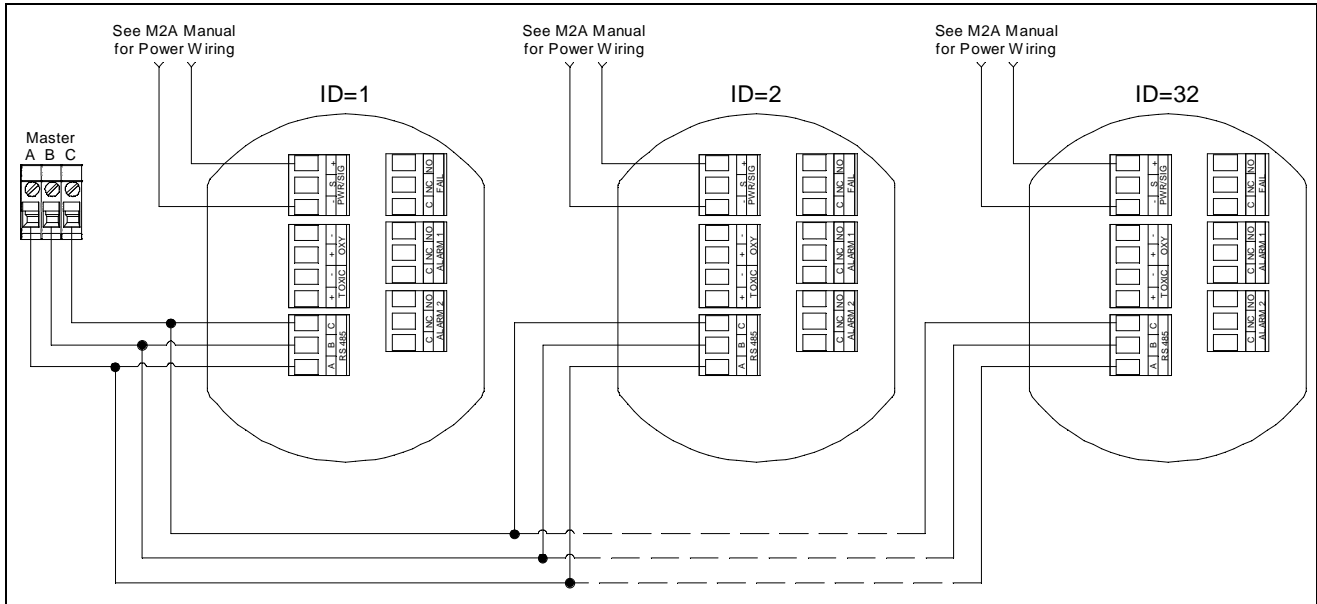
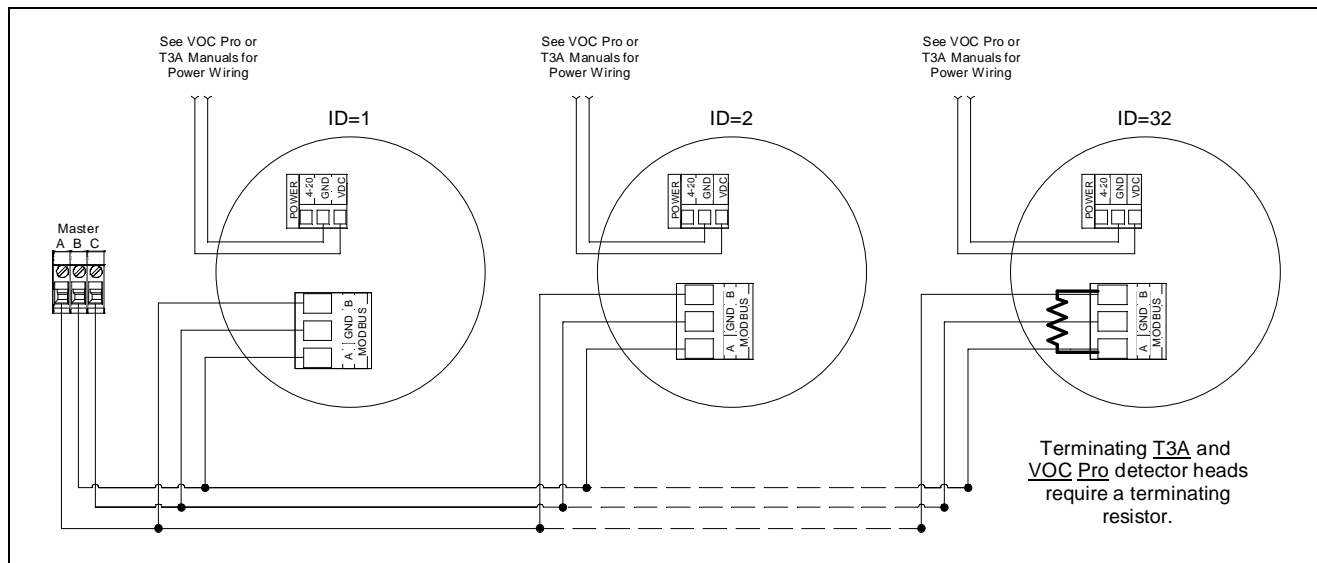
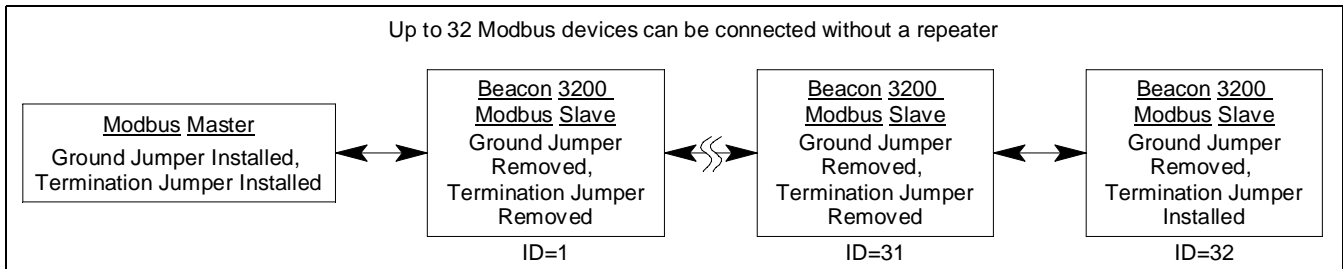

Figure 15: Modbus Master Wiring for M2A Detector Heads
Figure 16: Modbus Master Wiring for T3A and VOC Pro Detector Heads
Figure 21: Jumper Configuration
The Beacon 3200 supports up to 32 M2As connected together without the need for a repeater. Figure 15 and Figure 16 illustrate typical Beacon 3200 wiring configurations.
2. Configure the ground and termination jumpers (location shown in Figure 15) as shown in Figure 21.